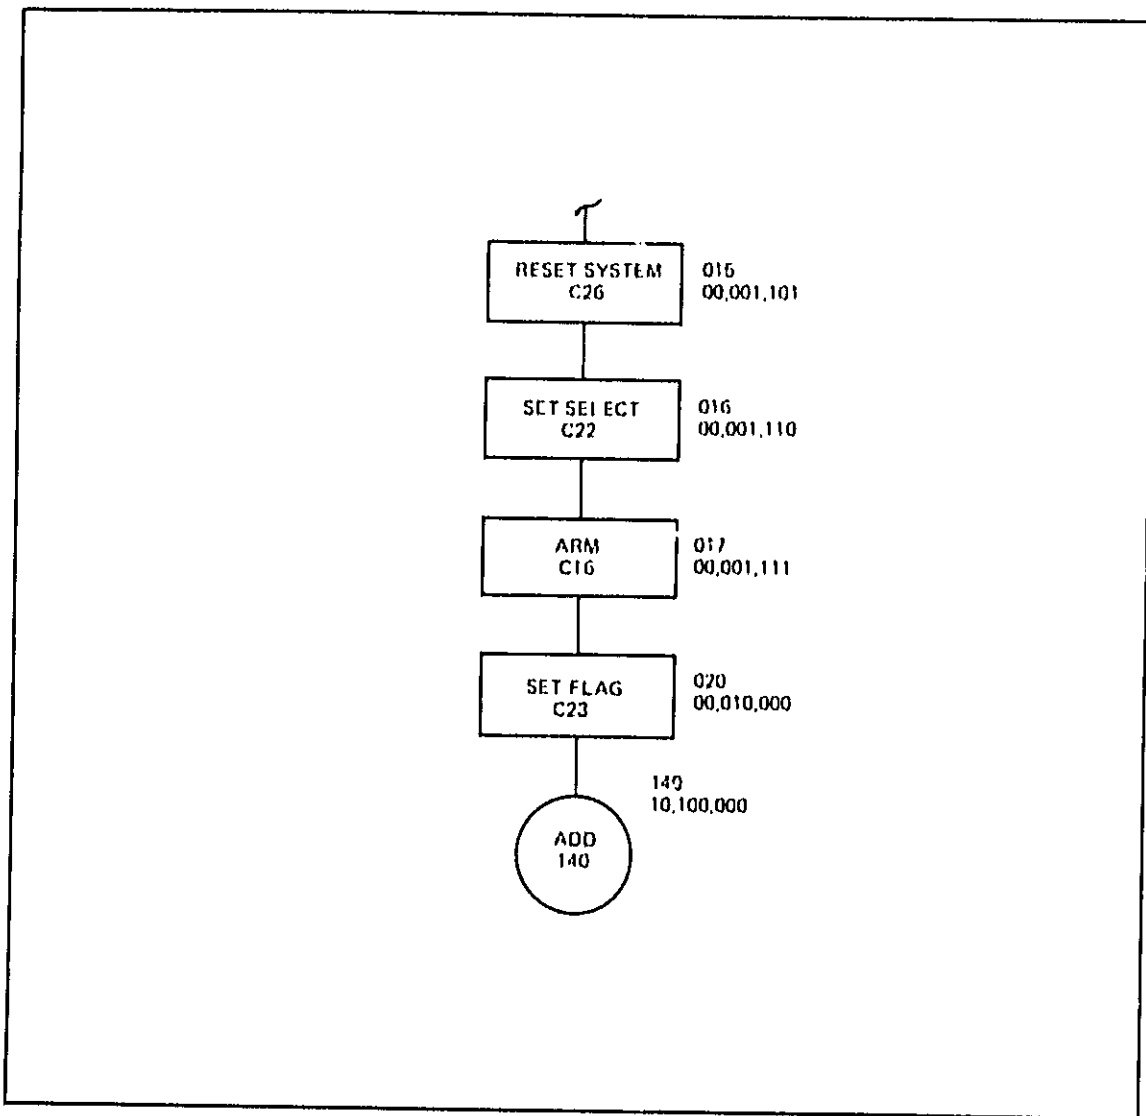
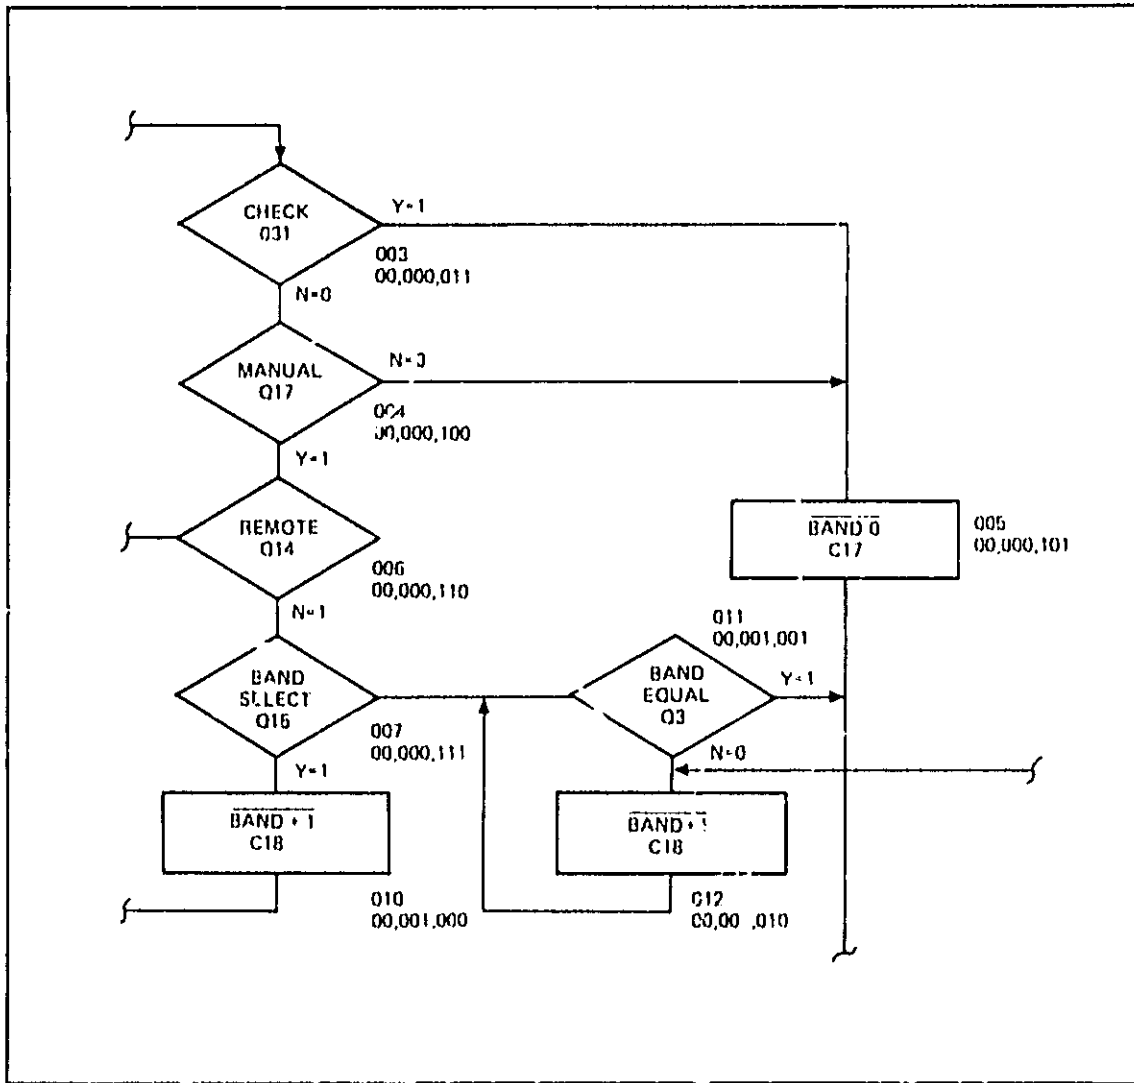

Figure 4-3. Command and Count Flowchart (Partial)
Figure 4-4. Qualifier Examination Flowchart (Partial)
4-132. With  $O_{15}$  high, U4A is preset so that U4A(5) is high. This is routed to U10B which has pin 6 high and 5 low. This results in U10B(4) high which drives the PE lines of U16 and U19 high, thus the state counters will increment. Referring to Figure 4-3, the flowchart shows that C26 is followed by another command C22 at the next high address (16).
4-133. **COMMAND AND GO TO.** Figure 4-3 shows a portion of the flowchart which illustrates a command and GO TO routine at SET FLAG C23. Use the flowchart and ROM truth table in the same manner as the preceding example. U15 outputs for address  $O_{20}$  are  $O_{15}=H$ ,  $O_{14}=H$ ,  $O_{13}=H$ ,  $O_{12}=H$ ,  $O_{11}=L$ ,  $O_{10}=H$ ,  $O_9=H$ ,  $O_8=H$ ,  $O_7=L$ ,  $O_6=H$ ,  $O_5=H$ ,  $O_4=L$ ,  $O_3=L$ ,  $O_2=L$ ,  $O_1=L$ ,  $O_0=L$ . Since  $O_{14}$  is high and  $O_{15}$  is high, the state machine is in the command and GO TO mode.  $O_{15}$  high drives U5A(2) and U5C(10) high.  $O_{12}$  high is inverted by U11A and drives U5C(9) low. This results in U5C(16) driving U2(18) low. The input on U2 address lines will be A=L, B=L, C=L, D=H. This corresponds to a decimal address of 8 which gives an active output on the C23 command line. With  $O_{15}$  high, U4A is preset so that U4A(5) is high. This is routed to U10B which has pin 6 high and pin 5 high. This results in a low on U10B(4) which drives the PE lines of U16 and U19 high. Thus the state counters will jump to the address on their  $P_0-P_3$  inputs on the next clock pulse. These address inputs for U15 are  $I_7=O_7=L$ ,  $I_6=O_6=H$ ,  $I_5=O_5=H$ ,  $I_4=O_4=L$ ,  $I_3=O_3=L$ ,  $I_2=O_2=L$ ,  $I_1=O_1=L$ , and  $I_0=O_0=L$ . This addresses the ROM to octal address 140. This is shown in the partial flowchart in Figure 4-4.
4-134. Examine Qualifier and Jump IF Q=H. Figure 4-4 shows a portion of the flowchart which illustrates an "Examine Qualifier and Jump IF Q=H" at CHECK Q31. Use the flowchart and ROM truth table in the same manner as the preceding example. U15 outputs for address 003 are  $O_{15}=L$ ,  $O_{14}=H$ ,  $O_{13}=L$ ,  $O_{12}=H$ ,  $O_{11}=H$ ,  $O_{10}=H$ ,  $O_9=H$ ,  $O_8=H$ ,  $O_7=L$ ,  $O_6=L$ ,  $O_5=L$ ,  $O_4=L$ ,  $O_3=L$ ,  $O_2=H$ ,  $O_1=L$ ,  $O_0=H$ . Since  $O_{14}$  is high and  $O_{15}$  is low, the state machine is in the "Examine Qualifier and Jump IF Q=H".  $O_{15}$  low disables U5A so neither of the command decoders are enabled. Also  $O_{15}$  low does not preset U4A so that it is free to store a qualifier. With  $O_{12}$  high, U11A inverts this to drive U13(9) low which selects U13 to examine a qualifier as selected on U13 address lines. The U13 address is A=L, B=L, C=L, D=L, this is decimal 0 so that U13(8) is active to select the Q31 qualifier. If Q31 is high, U13(10) is low. Since U10C(9) is high and U10C(8) is low, then U10C(10) will be high. When U4A clocks, U4A(5) and U10B(6) will be high. Since  $O_{14}$  is high, U10B pin 5 is high and U10B pin 6 is high. This gives a low at U10B(4) and the PE Inputs of the state counters. Thus the counters will jump the address on their  $P_0-P_3$  inputs. The address inputs for U15 are  $I_5=O_7=L$ ,  $I_6=O_6=L$ ,  $I_5=O_5=L$ ,  $I_4=O_4=L$ ,  $I_3=O_3=L$ ,  $I_2=O_2=H$ ,  $I_1=O_1=L$ ,  $I_0=O_0=H$ . This address is the ROM to octal address 005 (BAND 0 COMMAND). Thus the state machine has examined a qualifier, determined if the qualifier was 1, found that it was, and jumped rather than incremented.